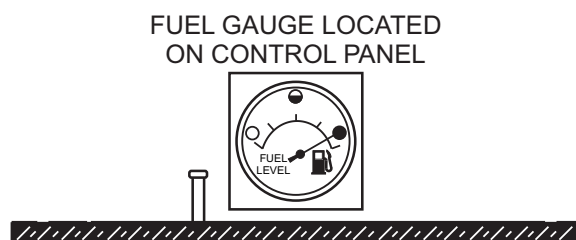

Figure 39. Full Fuel Tank
3. **NEVER overfill the fuel tank** — It is important to read the fuel gauge when filling the fuel tank. **DO NOT** wait for fuel to rise in the filler neck (Figure 39).